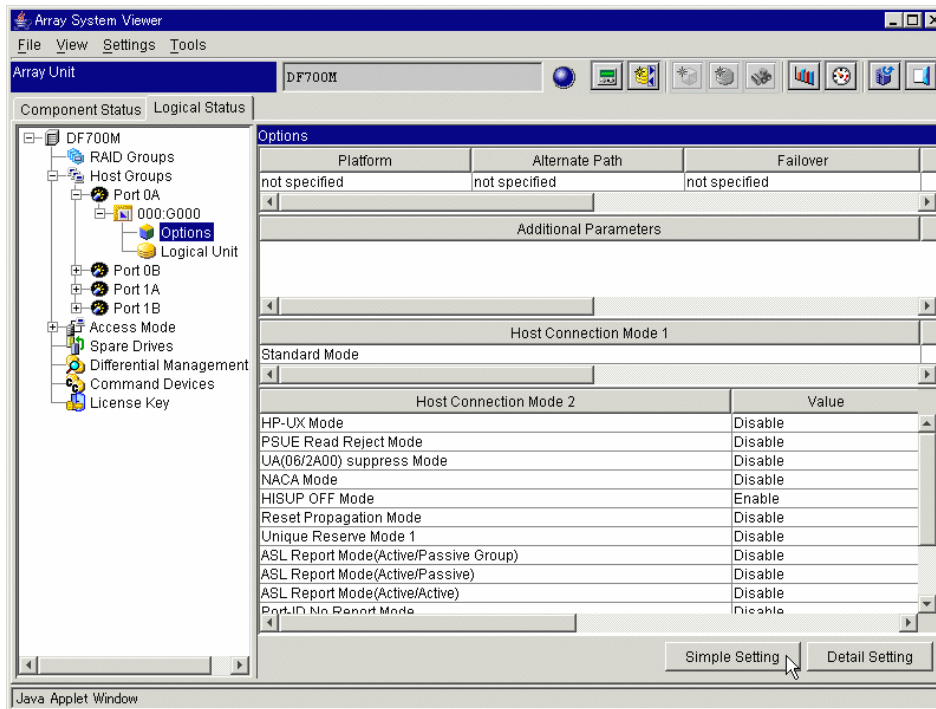

Figure 7.1 Array System Viewer - Simple Settings
1. Click the **Logical Status** tab. See Figure 7.1.